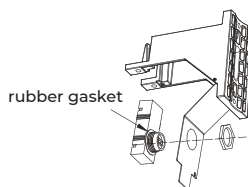

Fig. 47
2. Push the sensor through the hole and tighten it with the nut as shown in Fig. 47.